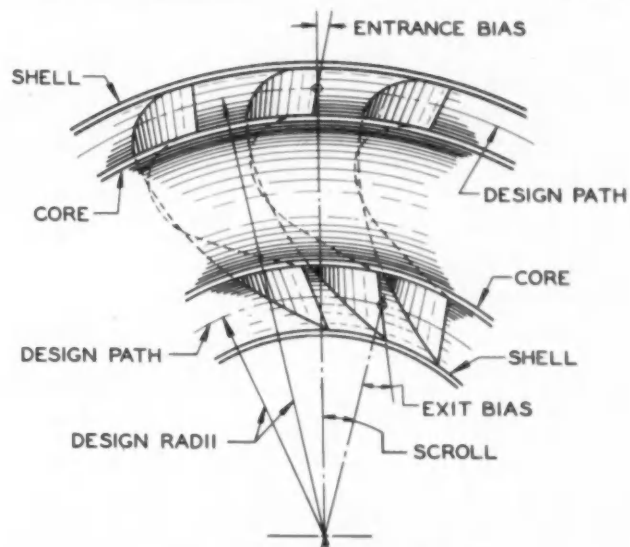

Fig. 6—Blade terminology (turbine)
entering and leaving edges of the blade when that blade does not lie in one axial plane. See Fig. 6.
**DESIGN RADII (entrance or exit)** of any member are taken at the point of intersection of the design path with the theoretical blade edges. See Fig. 6.